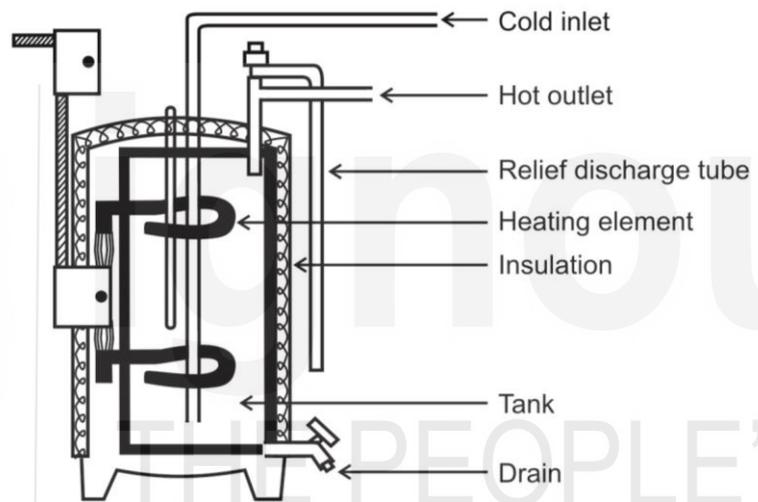

Fig. 5.2: Electrically operated water heater: An open system.
**Open system:** A system is said to be open if it exchanges mass as well as energy with the surroundings. However, an open system has a fixed volume, known as the **control volume**. An electrically operated water heater used in bathroom is a familiar example of an open system. The water in its tank is heated in order to get a steady supply of hot water. The hot water flowing out of the tank is replaced by cold water flowing in. In this case, it is not convenient to choose a given mass of water as our system. Instead we direct our attention on the volume formed by the inner surface of the tank. Since water is flowing in and out across the boundary, the geyser is an open system. This is depicted in Fig. 5.2. Mathematically, we can write